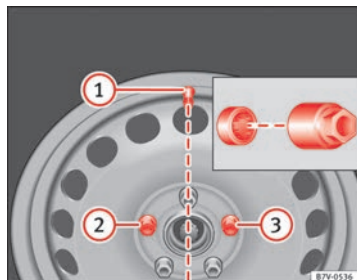

Fig. 184 Changing the wheel: Tyre valve ① and position of anti-theft wheel locking bolt ② or ③.
Before mounting the full hubcap, the anti-theft wheel lock must be threaded into position ⇒ fig. 184 ② or ③. Otherwise it will not be possible to mount the full hubcap.
Press the hubcap against the wheel so that the space for the valve fits over the tyre valve ⇒ fig. 184 ①. Make sure that the hubcap is correctly fitted all the way around the wheel.
For wheels with full hubcap, the anti-theft wheel lock must be threaded into position ⇒ fig. 184 ② or ③ before mounting the hubcap. Otherwise it will not be possible to mount the full hubcap.
- Screw on the anti-theft locking bolt with the adapter in position ⇒ fig. 184 ② or ③ clockwise and tighten gently.